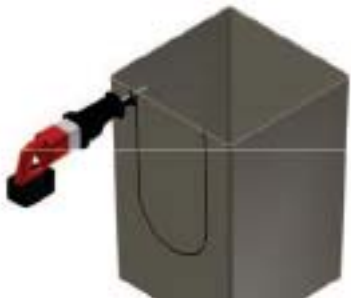

Figure 6.2
- Use a cut-off tool or reciprocating saw to remove the interfering material from the catch basin. See Fig. 6.2